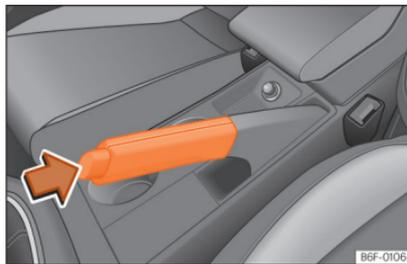

Fig. 241 Handbrake between the front seats.
- Pull the handbrake lever up »» Fig. 241.
- Pull the lever up slightly and press the release knob in the direction of the arrow »» Fig. 241 and guide the handbrake lever down fully »» ⚠.